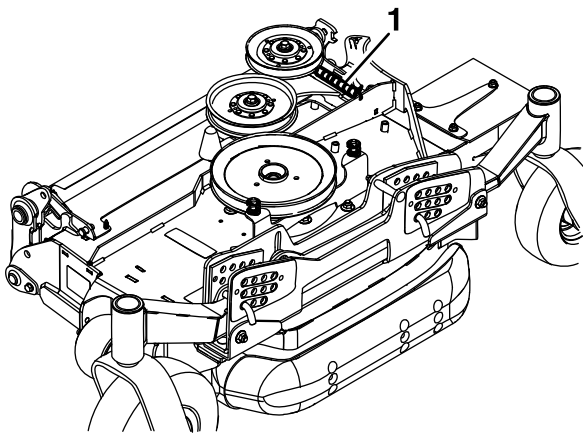

**Figure 86**
14. Remove the flanged bushings from the upper pivot points and clean the bore (Figure 86).
- 18. Remove and retain the lower pivot point bolts (Figure 83 and Figure 86).
- 14. Remove the flanged bushings from the upper pivot points and clean the bore (Figure 86).